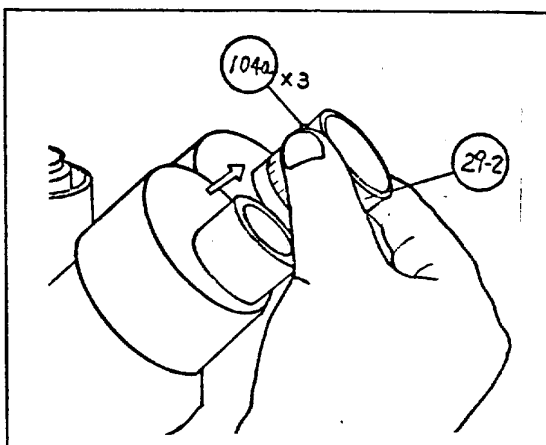

Fig. 5
- 3) Releasing the set screws (104a) x3, take off the index ring (29-2) (Fig. 5).